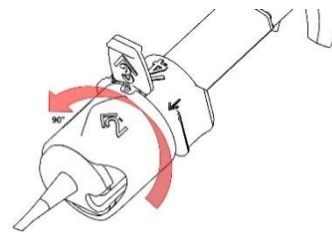

Fig. 2a
4. Turn the transparent rotatable ring as indicated by the flat arrow marked with '2' counterclockwise by 90 degrees until it snaps into place with a distinct "click" (Fig. 2a).